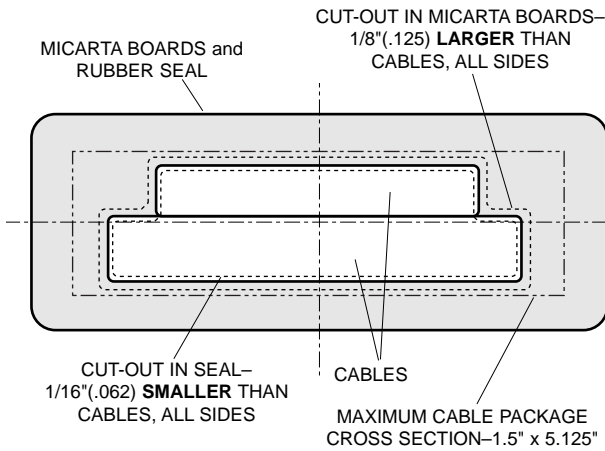

Figure 2
3. Using end or short section of cable(s) as template, trace outline of cable(s) in center of both Micarta boards and rubber seal. (Fig. 2)
4. Scribe line 1/8" (0.125") **OUTSIDE** of cable outline (Fig. 2) on Micarta boards. Cut out cable openings with jigsaw or similar tool.
5. Scribe line 1/16" (0.062) **INSIDE** of cable outline (Fig 2) on seal. Cut out cable opening using hot knife or similar tool. Sides of cut-out must be as smooth as possible to prevent leakage.